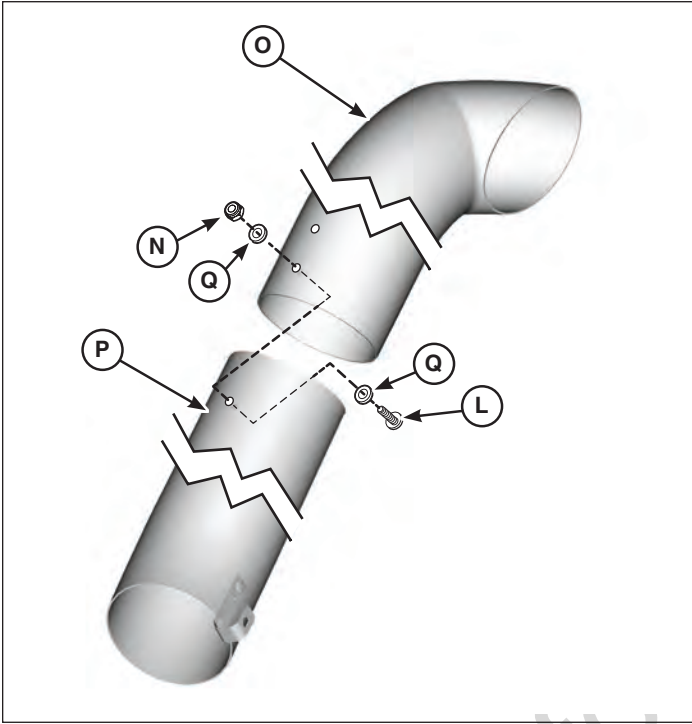

Figure 20
- Slide upper tube (O, Figure 20) over lower tube (P) and align holes as shown.
- On the inside of tube, insert screw (L) through washer (Q), lower tube, upper tube and washer (Q). Secure with nut (N).